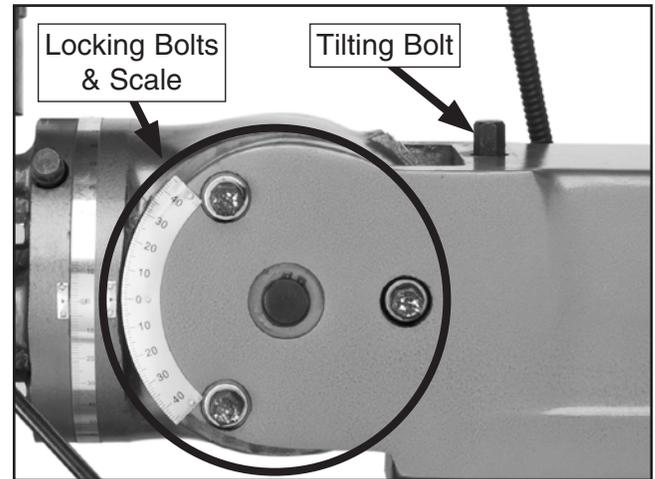

Figure 33. Head tilting controls.
2. Loosen the three tilt locking bolts shown in **Figure 33**.